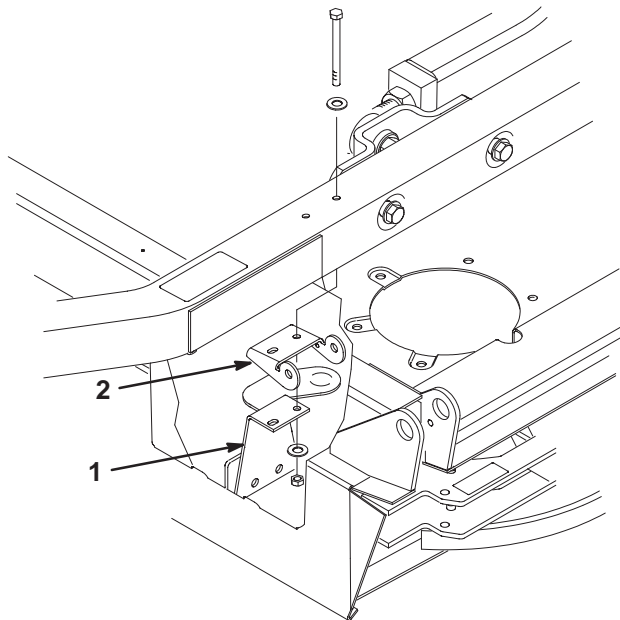

Figure 6
17. Mount the new clutch bracket and the previously removed hinge to the frame tube with (2) capscrews (5/16-18 x 3-1/4 inch), 4 washers (11/32 x 11/16) and 2 locknuts (5/16-18). Position the washers next to the screw head and the nut (Fig. 6). Make sure to use the correct bracket.